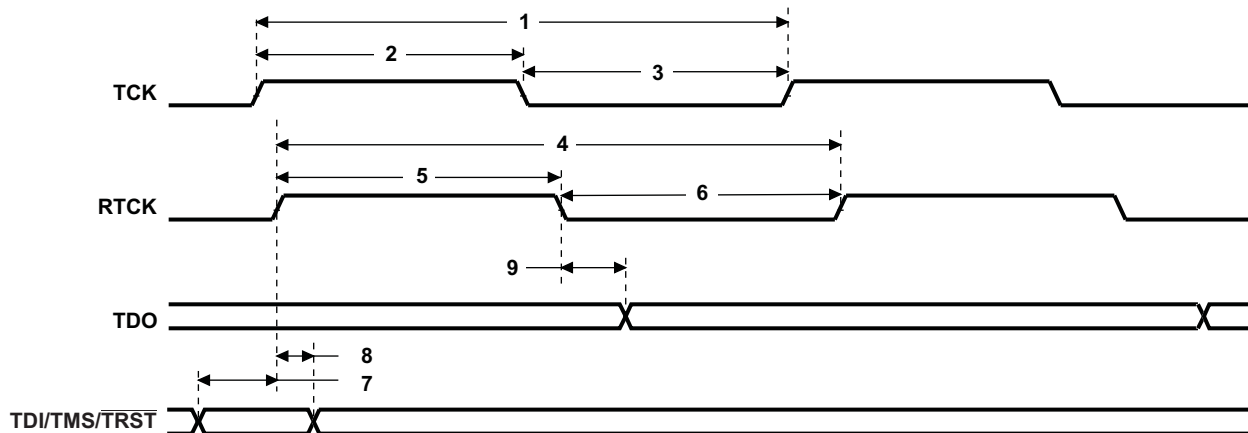

**Figure 6-81. JTAG Test-Port Timing**
**Table 6-125. Timing Requirements for JTAG Test Port (see Figure 6-81)**
**Table 6-126. Switching Characteristics Over Recommended Operating Conditions for JTAG Test Port (see Figure 6-81)**